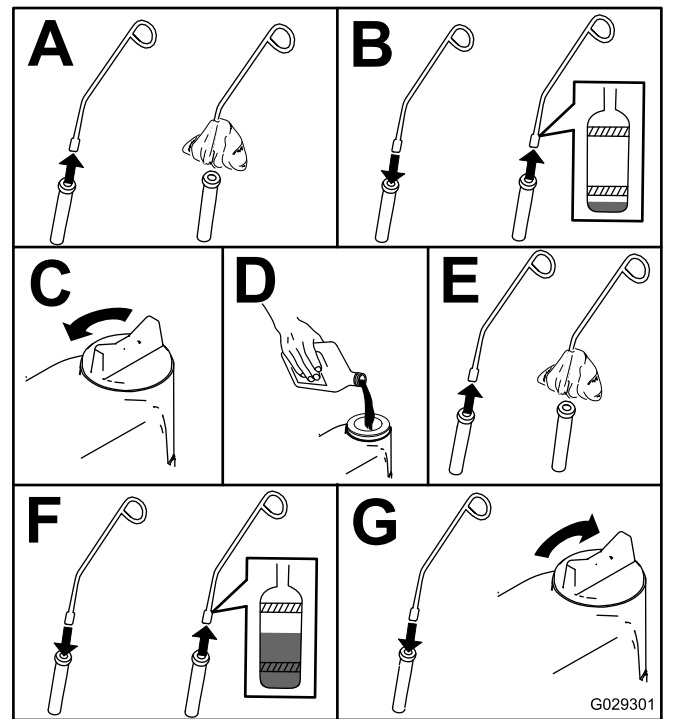

Figure 43
3. Check the engine-oil level as shown in Figure 43.